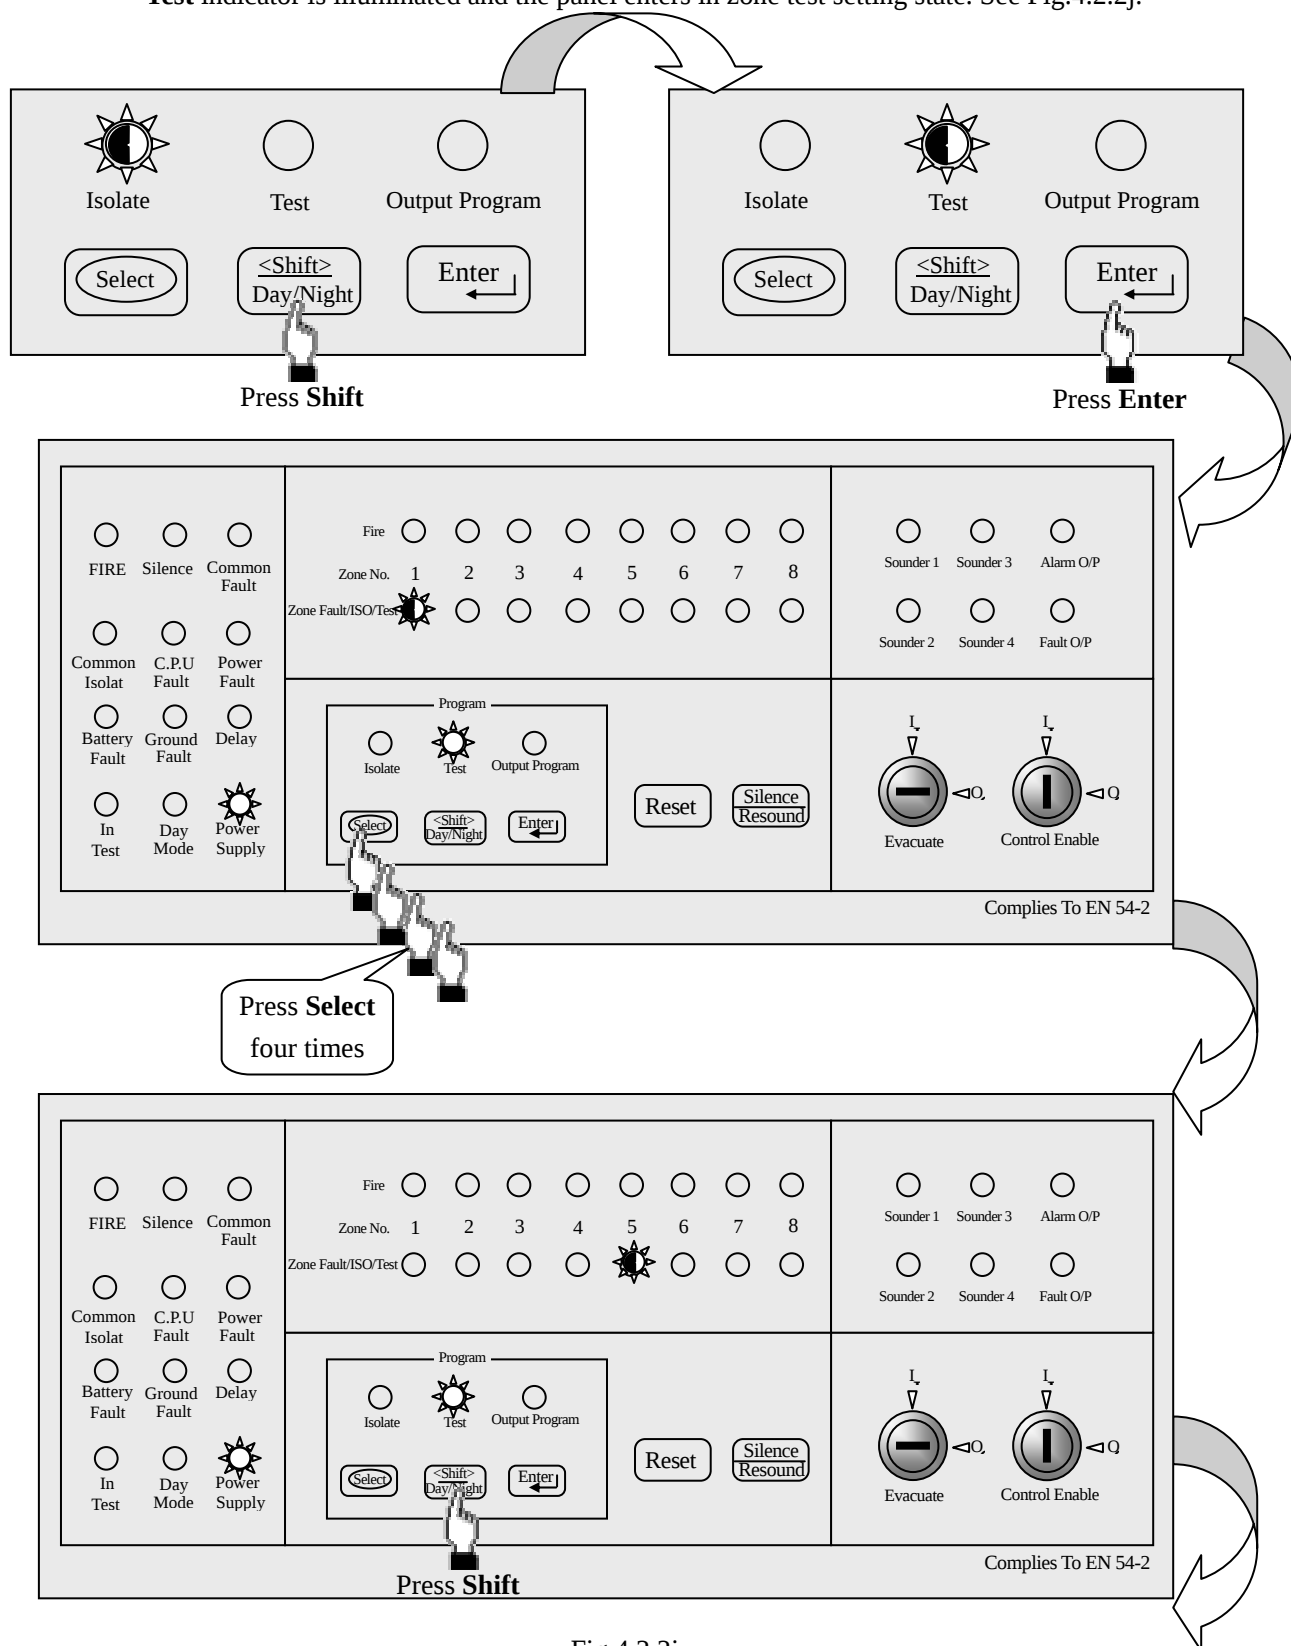
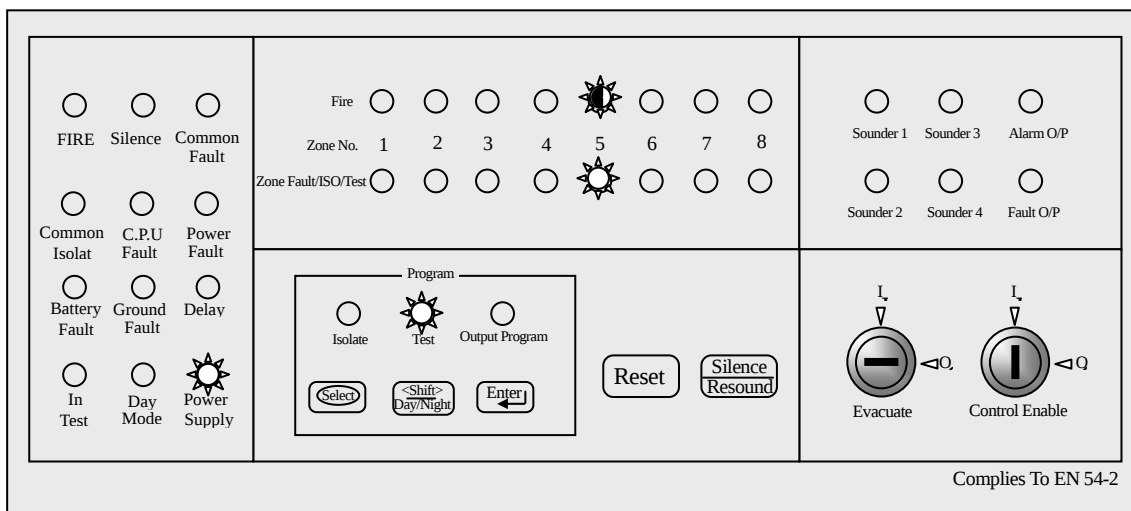

Fig.4.2.2j
Fig.4.2.2k
4.2.5.3.2 Press the **Shift** pushbutton once, the **Test** indicator flashes. Then press the **Enter** pushbutton, the **Test** indicator is illuminated and the panel enters in zone test setting state. See Fig.4.2.2j.
4.2.5.3.3 Press the **Select** pushbutton to select the zone being tested (e.g. select zone 5 in Fig.4.2.2j and Fig.4.2.2k). Press the **Shift** pushbutton, the testing state of the selected zone will be changed and indicated by the **Fire** indicator of the corresponding zone, and the selecting state will be indicated by the **Zone Fault/ISO/Test** indicator of the corresponding zone. The operations of confirming and canceling are the same with setting isolate.